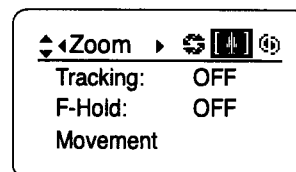

Fig. 2-12
(See Fig. 2-12)
2. Push the Set key, and move the right key to display the Zoom screen. (See Fig. 2-12)